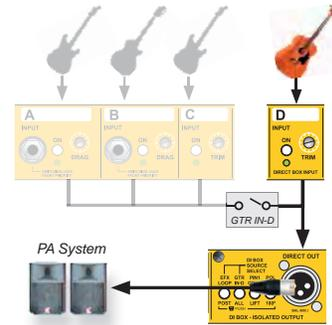

Fig.39 - INPUT-D exclusively assigned to the DIRECT OUT for sending an acoustic instrument to the PA.
**EXAMPLE: ACOUSTIC GUITAR TO THE PA (Fig.39)**
This example shows three electric guitars and one acoustic. The acoustic guitar (INPUT-D) is exclusively assigned to the DIRECT OUT for the purpose of sending its signal directly to the PA system (Fig.39). This is accomplished by setting the GTR switch to the outward position ( IN-D  ). Set this way, INPUT-D will always appear at the DIRECT OUT even if it is turned off at the front panel. At any time, the guitarist could also send the acoustic to the amplifiers via the front panel controls or JR5 remote footswitch.